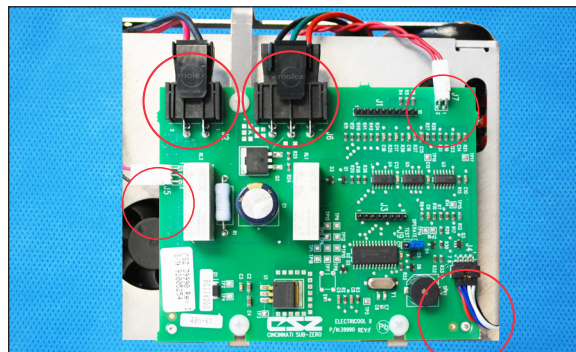

Figure 108 - Step 3 Disconnect all 5 connectors
3. Disconnect all five (5) electrical connectors from the control board (Figure 108).